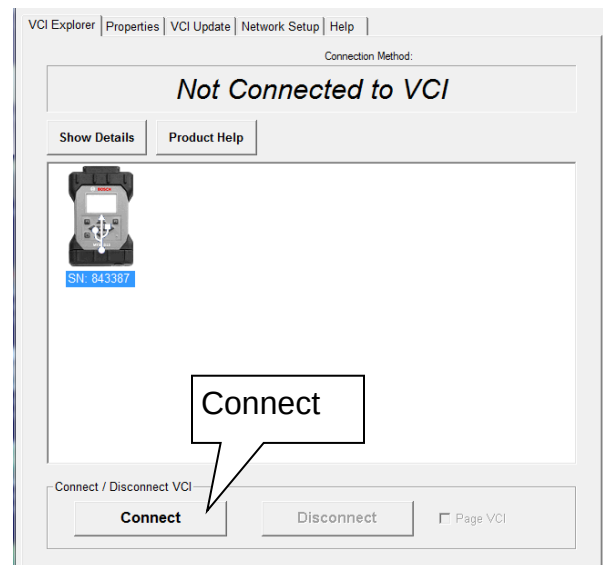

Figure 3
b. Wait for the VCI Manager screen to display (see Figure 3).
- After selecting OK, the screen will display as shown in Figure 3 page 3; software update is complete.